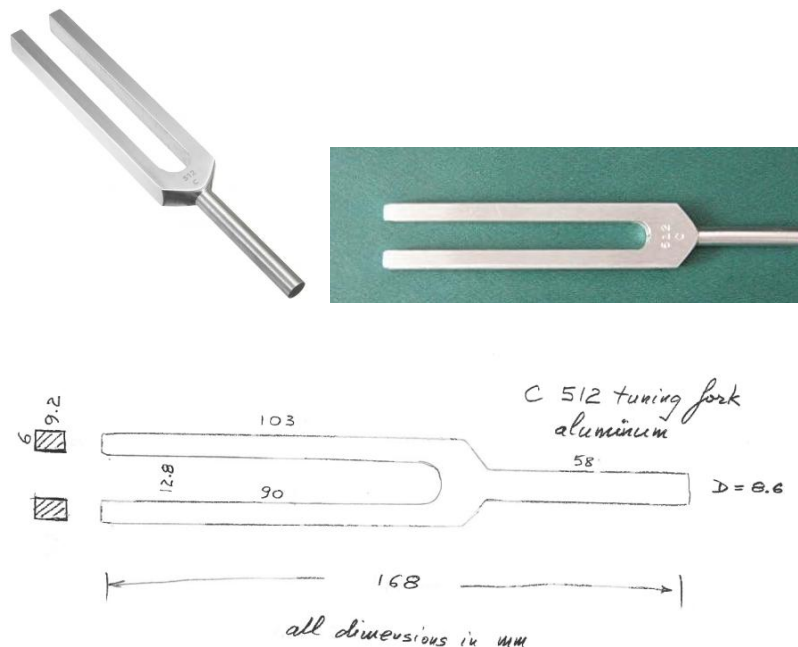

Figure 7: 512 C tuning fork (product reference). The measured sketch was prepared from the physical fork.
Consider the 512 C aluminum-alloy tuning fork shown in Figure 7. Common values for aluminum elastic modulus and density are $E = 70 \text{ GPa}$ and $\rho = 2700 \text{ kg/m}^3$. The tuning fork is intended to produce the middle-C note C_5 on the scientific pitch scale, with fundamental frequency $f_1 = 512 \text{ Hz}$.
- (1) Display input data.
- (2) Use the sketch in Figure 7 to estimate the cantilever-beam length L . Hint: use engineering intuition to estimate where the root of the cantilever beam could be assumed.
- (3) Use the sketch in Figure 7 to obtain the cantilever-beam cross-section dimensions h and b .
- (4) Calculate cross-section area A .
- (5) Calculate mass per unit length m .
- (6) Calculate second moment of area I .
- (7) Calculate flexural stiffness EI .
- (8) Calculate flexural constant a .
- (9) Use the results of Problem B.3 to calculate the fundamental frequency f_1 in Hz.
- (10) Compare the calculated f_1 with the nominal tuning fork frequency of 512 Hz, calculate the percentage difference, and comment on your results.
- (11) Manually adjust the estimated beam length to a new value L_{new} until the new frequency $f_{1,\text{new}}$ equals 512 Hz.
- (12) Comment on the engineering estimation and adjustment process developed in the solution of this problem.
- (13) Graduate work. Find the frequencies of the next three higher harmonics of the tuning fork after length adjustment.